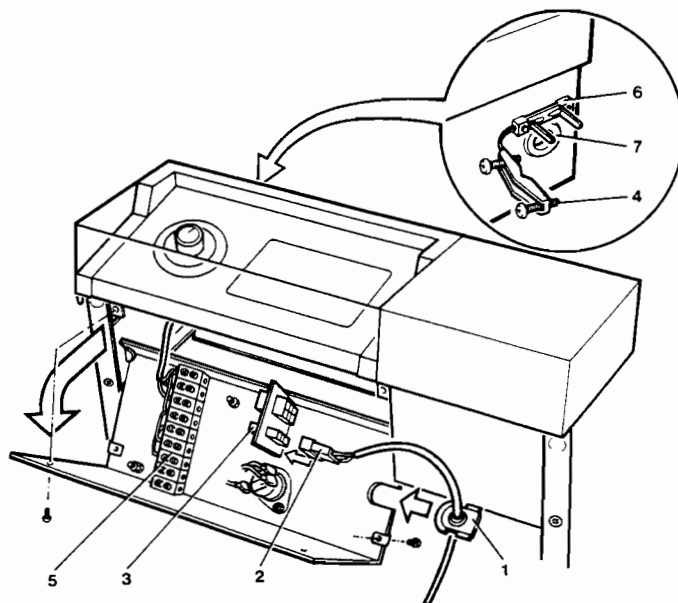

Fig. 9
9. Electrical connection. See Fig. 9.